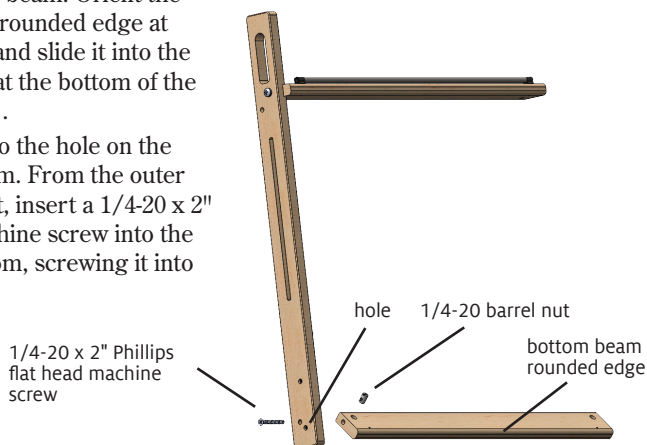

FIGURE 3: ATTACH THE BOTTOM BEAM
**3.** Attach the bottom beam: Orient the bottom beam with its rounded edge at the front of the loom and slide it into the slanted inner groove at the bottom of the left upright (Figure 3).